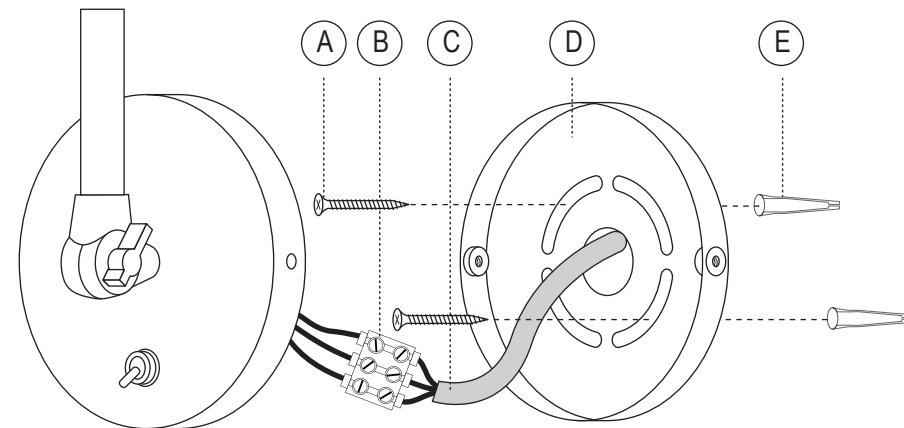

Fig.1
STEP 1 see fig.1
- Remove fixing plate (D) from backplate of fitting, removing the two side fixing screws (G), then mark fixing holes through fixing plate (D), before drilling holes (see points 5 & 6 on reverse).